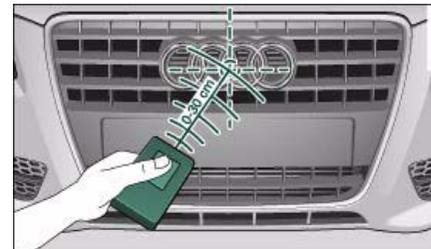

Fig. 198 Radiator grille ▶
6. Hold the **original hand-held transmitter** at or near the centre of your car's radiator grille ⇒ *page 179*, fig. 198.
- Hold the **original hand-held transmitter** for the garage door opener or other device directly in front of the radiator grille of your vehicle (at or near the centre) ⇒ *page 179*, fig. 198. The exact distance depends on the system that you want to program.